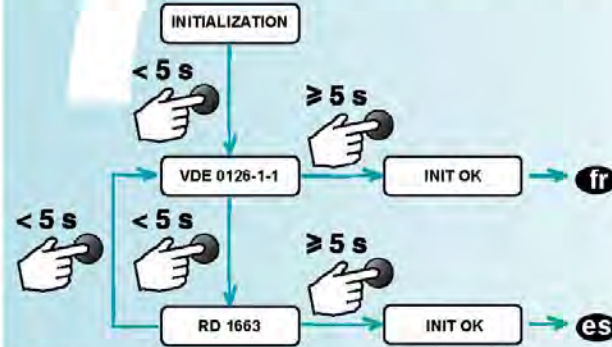

Fig. 13
- When powering up for the first time, "INITIALIZATION" (Fig. 13) is displayed: